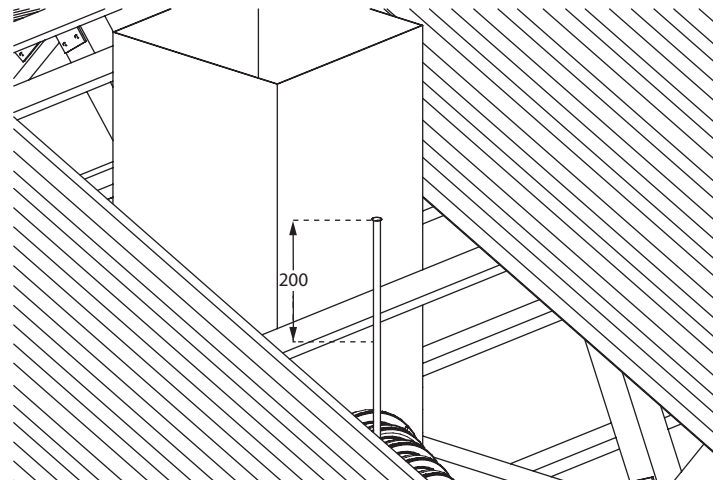

Fig. 7
- Once water has been run to the front of the Duct, leave approximately 200mm of pipe protruding out above the roof. This will later be connected to the Main Isolation tap (Fig. 7).